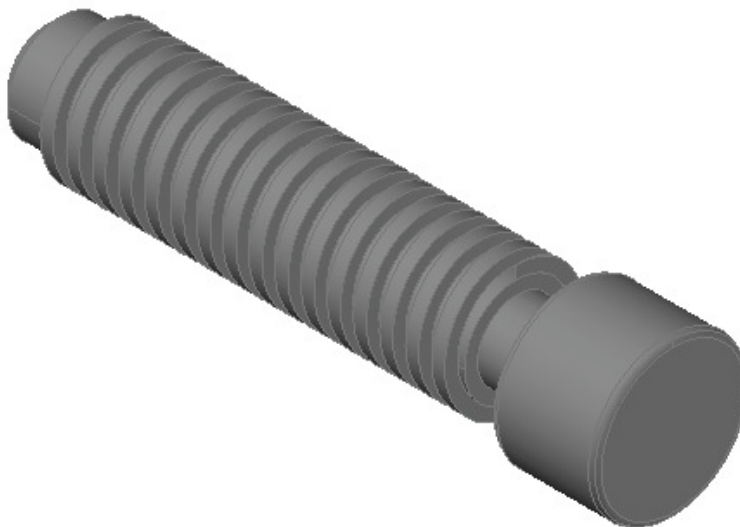

Figure Step 24
Step 24 Change the current view to SE Isometric. Using the UNION command, union the four solids to create a solid model. Your completed model should appear as shown in the figure. (Figure Step 24)